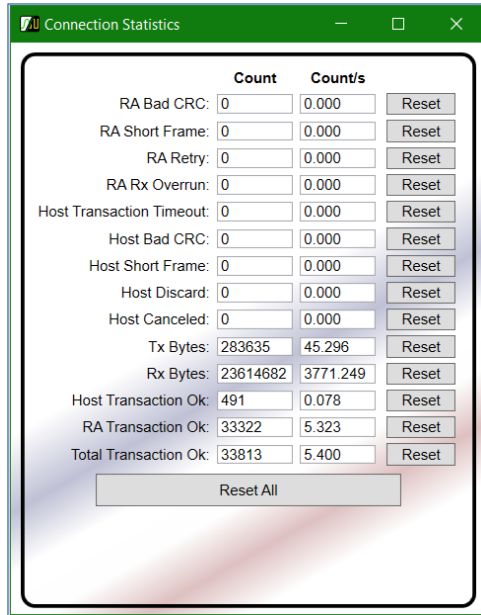

Figure 102: Host Connection Statistics
- RxAn – Statistics the RxAn maintains, as shown in Figure 102, Connection Statistics window